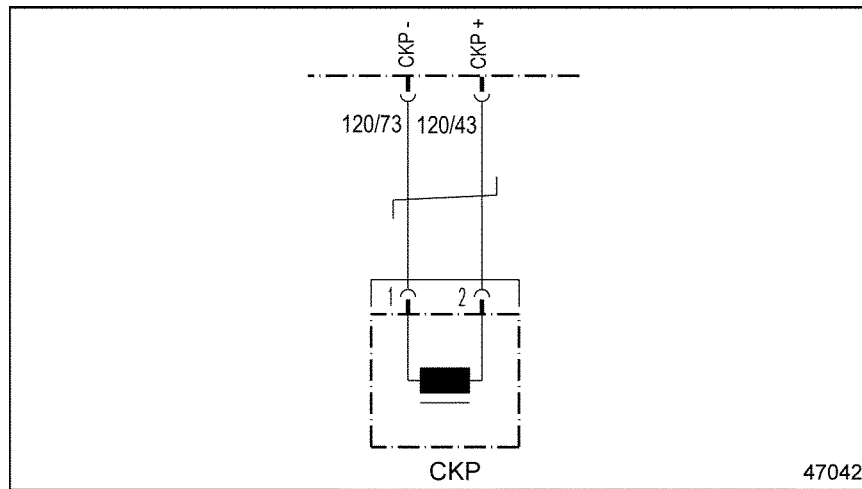

Figure 23-2 Crankshaft Position Sensor Wiring
2. Measure the resistance across pins 1 and 2 of the CKP Sensor. See Figure 23-2.